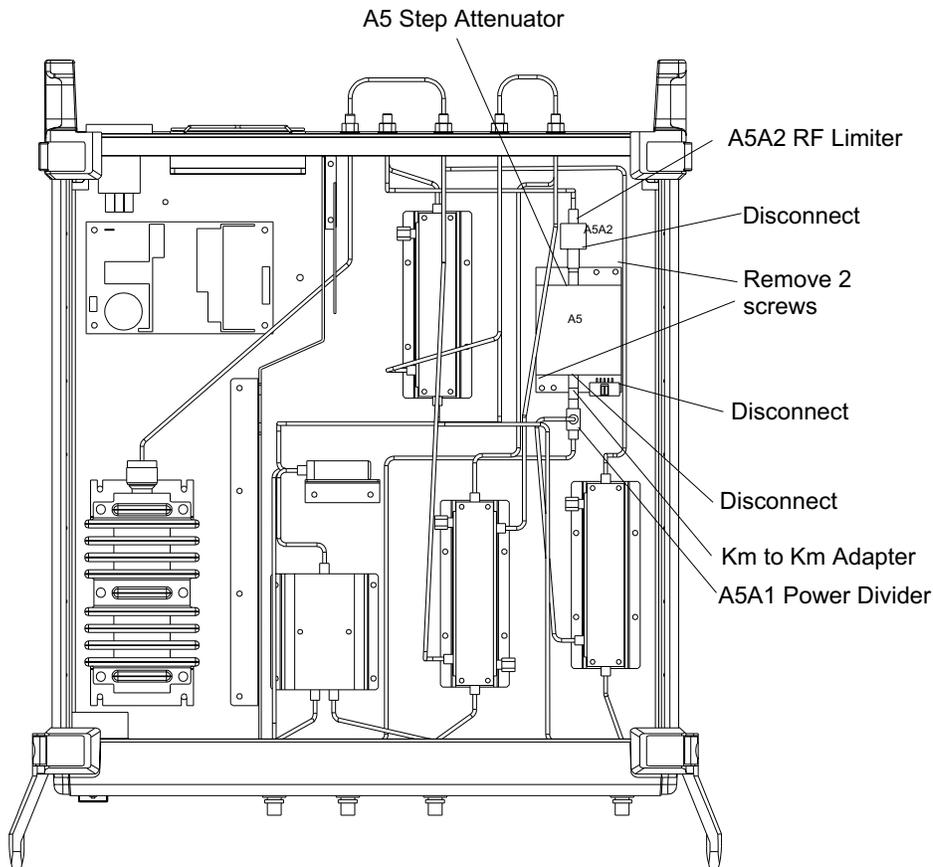

Figure 5-5. A5 Step Attenuator Removal
- Step 2.** Disconnect the A5A2 RF Limiter from the step attenuator (Figure 5-5).